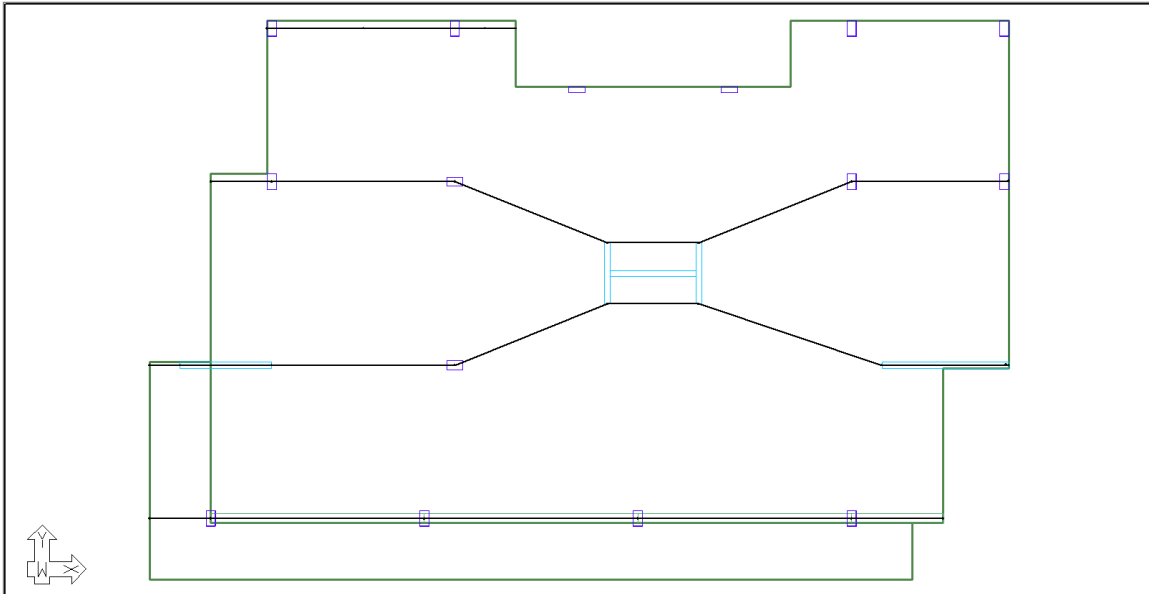

FIGURE 9-14
- Click on the **Top View**  icon in the *Bottom Quick Access* toolbar. The model should now have support lines as shown in **FIGURE 9-14**.